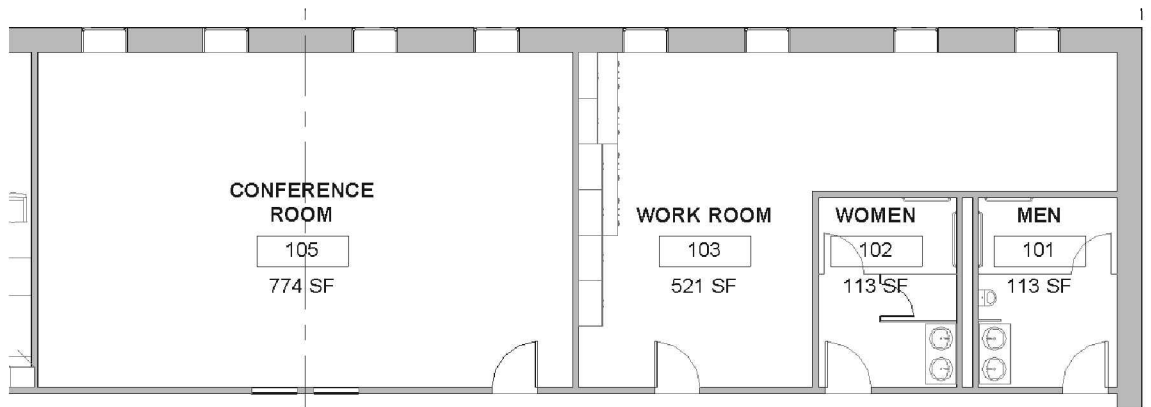

FIGURE 17-3.15 Rooms added; Level 1 – New floor plan view
43. In the **Level 1 – New** view, add **Rooms** as shown in Figure 17-3.15; name and number as shown.